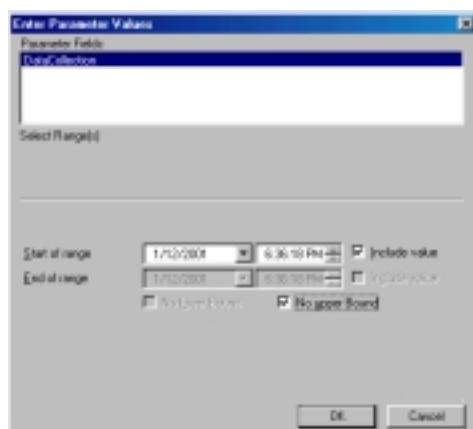

Figure 12.10 Date Range Window
2. A window specifying a date range will appear (Figure 12.10). Enter the beginning and ending collection dates for the desired report. Select the “No upper Bound” option to view a report containing all transactions since the “Start range” field value or select the “No lower Bound” option to view a report containing all transactions leading up to the “End of range” value.